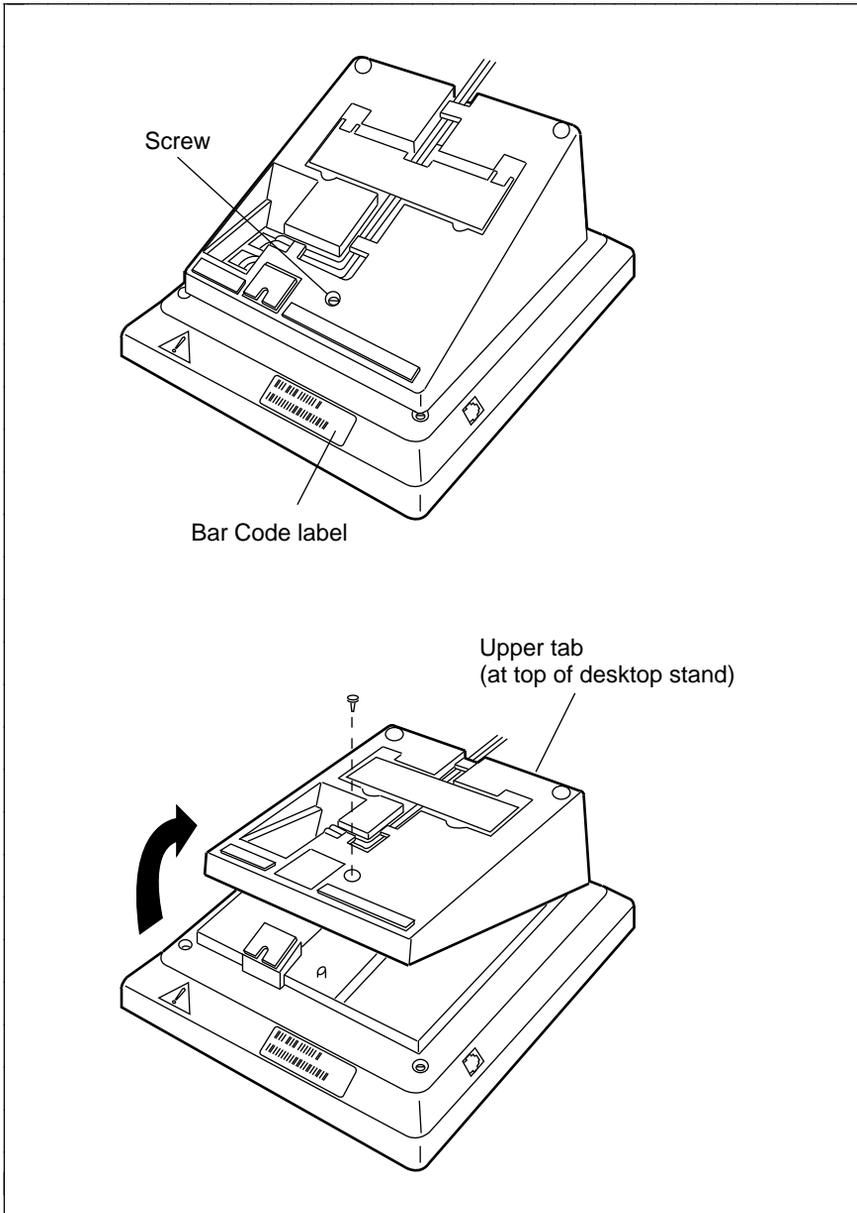

FIGURE 2 Removing the Voice Terminal Desktop Stand
- 2 Remove the screw on the lower center of the stand. See **Figure 2** for the location of the screw.
- 3 Remove the desktop stand attached to the base of the terminal by tabs on the top and bottom of the stand. See **Figure 2**.
- 3 Replace the screw in the hole from which you removed it. See **Figure 2**.